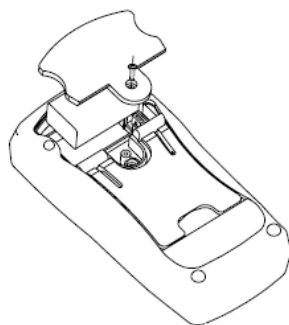

figure 8
J. REPLACING THE BATTERY (SEE FIGURE 8)